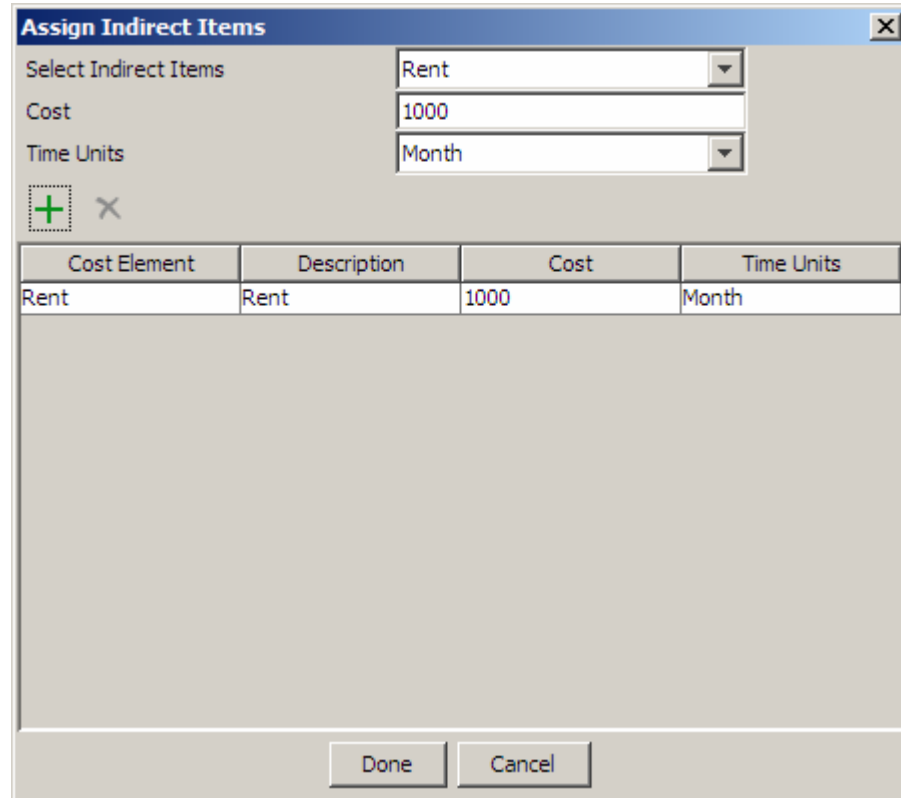

Figure 10.14: Indirect Resource Added
11. Click *Add Indirect Item* (+) to add the selected indirect item. The selected item is added as shown in the Figure 10.14.